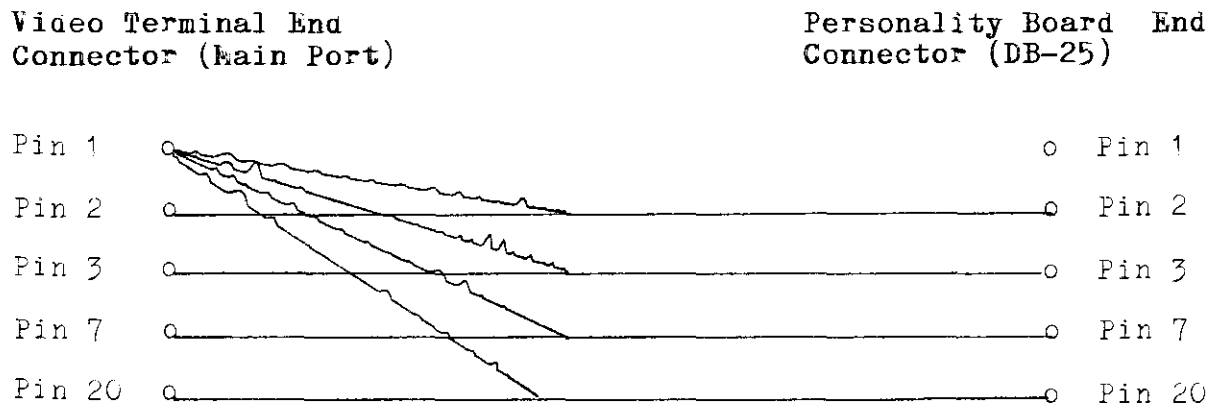

FIGURE 1.10
- Solder or crimp the wires at each end of the RS-232 cable to the DB-25 male connectors. Figure 1.10 illustrates the pin-wire pin assignment. ***Pin 1 is the shield. Tie pin 1 on the Video Terminal end ONLY.**